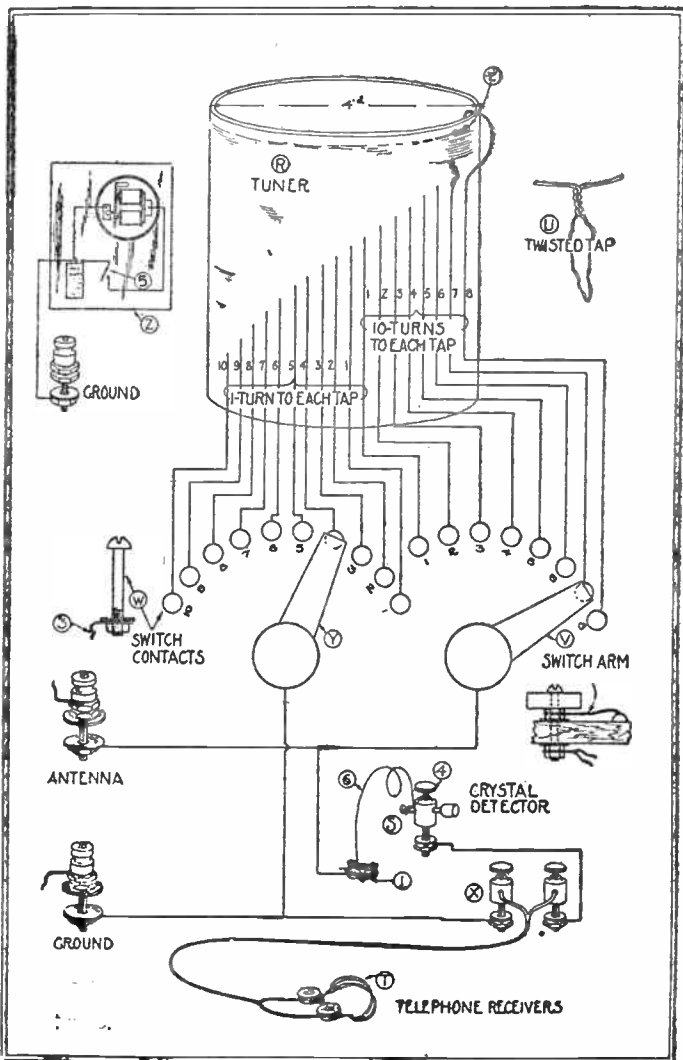
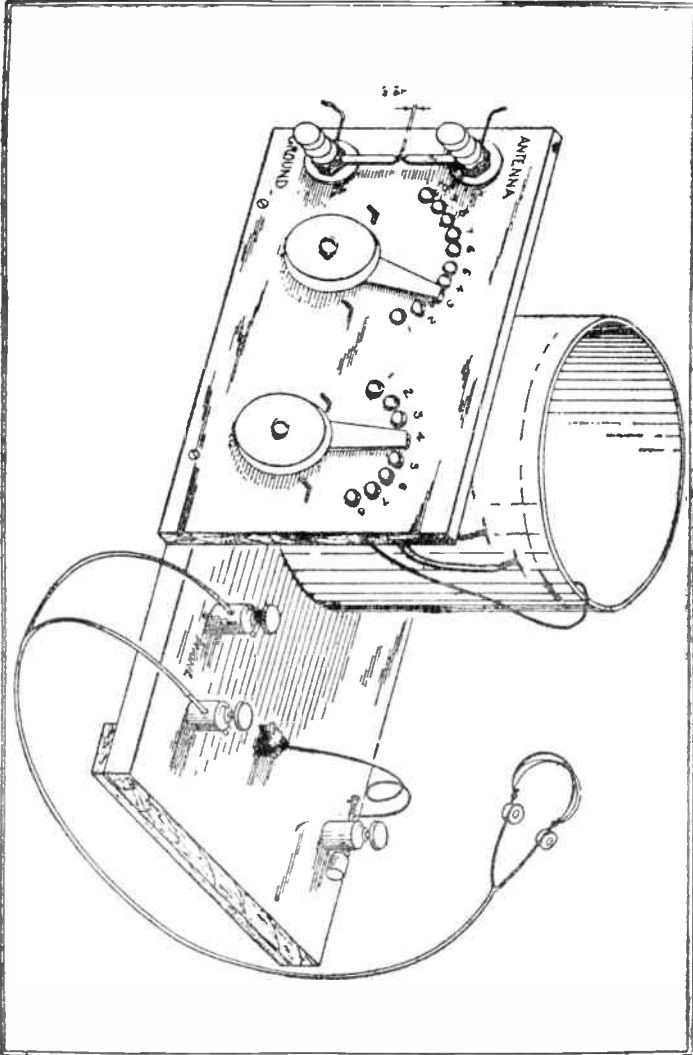

Fig. 9
Fig. 10
Tuner (R, Fig. 9)—This is a piece of cardboard or other non-metallic tubing with turns of copper wire wound around it. The cardboard tubing may be an oatmeal box. Its construction is described in detail below.
Crystal Detector (S, Fig. 9)—The construction of a crystal detector may be of very simple design and quite satisfactory. The crystal, as it is ordinarily purchased, may be unmounted or mounted in a little block of metal. For mechanical reasons the mounted type may be more satisfactory, but that is of no great consequence. It is very important, however, that a very good tested crystal be used. It is probable also that a galena crystal will be more satisfactory to the beginner.
The crystal detector may be made up of a tested crystal, three wood screws, short piece of copper wire, a nail, set-screw type of binding post, and a wood knob or cork. The tested crystal is held in position on the wood base by three brass wood-screws as shown at 1, Fig. 9. A bare copper wire may be wrapped tightly around the three brass screws for contact. The assembling of the rest of the crystal detector is quite clearly shown in Fig. 10.
Phone (T, Fig. 9)—It is desirable to use a pair of telephone receivers connected by a head band, usually called a double telephone headset. The telephone receivers may be any of the standard commercial makes having a resistance of between 2000 and 3000 ohms. The double telephone receivers will cost more than all the other parts of the station combined, but it is desirable to get them, especially if one plans to improve his receiving set later. If one does not care to invest in a set of double telephone receivers, a single telephone receiver with a head band may be used; it gives results somewhat less satisfactory.
Tuner—See R, Fig 9. Having supplied oneself with a piece of cardboard tubing 4 inches in diameter and about $\frac{1}{2}$ pound of No. 24 (or No. 26) double cotton covered copper wire, one is ready to start the winding of the tuner. Punch two holes in the tube about $\frac{1}{2}$ inch from one end as shown at 2 on Fig. 9. Weave the wire through these holes in such a way that the end of the wire will be quite firmly anchored, leaving about 12 inches of the wire free for connections. Start with the remainder of the wire to wrap the several turns in a single layer about the tube, tightly and closely together. After 10 com-
plete turns have been wound on the tube hold those turns snugly while a tap is being taken off. This tap is made by making a 6 inch loop of the wire and twisting it together at such a place that it will be slightly staggered from the first tap. This method of taking off taps is shown quite clearly at U, Fig. 9. Proceed in this manner until 7 twisted taps have been taken off at every 10 turns. After these first 70 turns have been wound on the tube then take off a 6 inch twisted tap for every succeeding single turn until 10 additional turns have been wound on the tube. After winding the last turn of wire anchor the end by weaving it through two holes punched in the tube much as was done at the start, leaving about 12 inches of wire free for connecting. It is to be understood that each of the 18 taps is slightly staggered from the one just above, so that the several taps will not be bunched along one line on the cardboard tube. See Fig. 9. It would be advisable, after winding the tuner as just described, to dip the tuner in hot paraffin. This will help to exclude moisture.
Upright Panel and Base—Having completed the tuner to this point, set it aside and construct the upright panel shown in Fig. 10.
The "antenna" and "ground" binding posts may be ordinary $\frac{1}{8}$ inch brass bolts of sufficient length and supplied with three nuts and two washers. The first nut binds the bolt to the panel, the second nut holds one of the short pieces of stiff wire, while the third nut holds the antenna or ground wire as the case may be. The switch arm with knob shown at V, Fig. 9, may be purchased in the assembled form or it may be constructed from a thin slice cut from a broom handle and a bolt of sufficient length equipped with four nuts and two washers together with a narrow strip of thin brass somewhat as shown.
The switch contacts (W, Fig. 9) may be of the regular type furnished for this purpose or they may be brass bolts equipped with one nut and one washer each or they may even be nails driven through the panel with an individual tap fastened under the head or soldered to the projection of the nail through the panel. The switch contacts should be just close enough that the switch arm will not drop
The telephone binding post should preferably be of the set screw type as shown at X, Fig. 9.
HAVING constructed the several parts mentioned in previous chapter and mounted them on the wood base, one is ready to connect the several taps to the switch contacts and attach the other necessary wires. Scrape the cotton insulation from the loop ends of the sixteen twisted taps as well as from the ends of the two single taps coming from the first and last turns. Fasten the bare ends of these wires to the proper switch contacts as shown by the corresponding numbers in Fig. 9.
One should be careful not to cut or break any of the looped taps. It would be preferable to fasten the connecting wires to the switch contacts by binding them between the washer and the nut as shown at 3, Fig. 9. A wire is run from the back of the binding post marked "ground" (Fig. 9) to the back of the left-hand switch-arm bolt (Y), thence
A wire is then run from underneath the right-hand binding post marked "phones" to underneath the binding post (4, Fig. 9), which forms a part of the crystal detector. A piece of No. 24 bare copper wire about $2\frac{1}{2}$ inches long, one end of which is twisted tightly around the nail (the nail passing through binding post 4), the other end of which rests gently by its own weight on the crystal (1).
The bare copper wire which was wrapped tightly around the three brass wood-screws holding the crystal in place is lead to and fastened at the rear of the right-hand switch arm bolt (v), thence to the upper left-hand binding post marked "antenna." As much as possible of this wiring is shown in Fig. 9.
The Test Buzzer (Z, Fig. 9)—As mentioned previously, it is easy to find the more sensitive spots on the crystal by using a test buzzer. The test buzzer is used as a miniature local transmitting set. When connected to the receiving set as shown at Z, Fig. 9, the current produced by the buzzer will be converted into sound by the telephone receivers and the crystal, the loudness of the sound depending on what part of the crystal is in contact with the fine wire.
To find the most sensitive spot connect the test buzzer to the receiving set as directed, close the switch (5, Fig. 9) (and if necessary adjust the buzzer armature so that a clear note is emitted by the buzzer), set the right-hand switch arm on contact point No. 8, fasten the telephone receivers to the binding posts marked "phones," loosen the set screw of the binding post slightly and change the position of the fine wire (6, Fig. 9) to several positions of contact with the crystal unit until the loudest sound is heard in the phones, then tighten the binding post set screw (4) slightly.